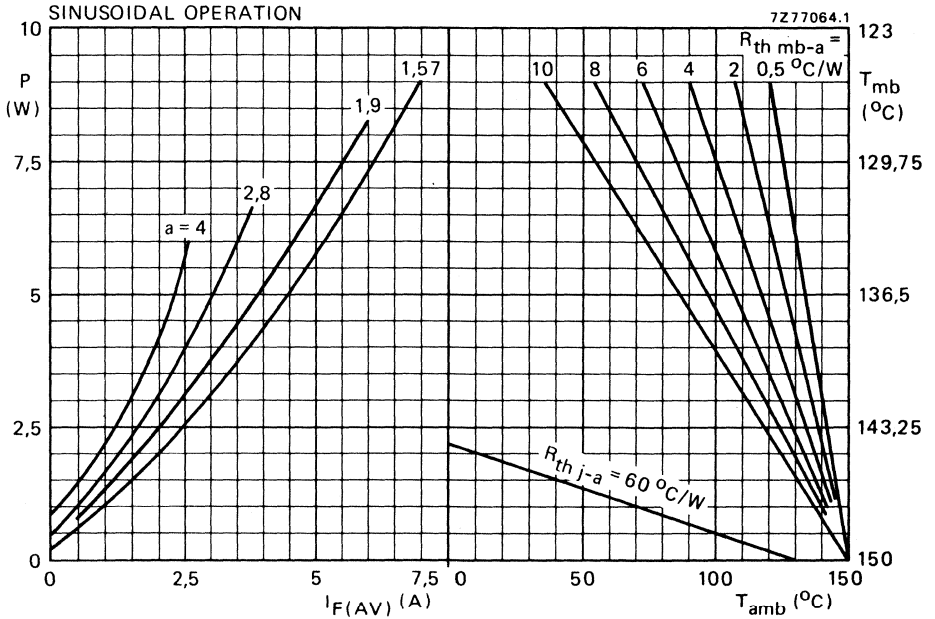

Fig. 5 The right-hand part shows the interrelationship between the power (derived from the left-hand part) and the maximum permissible temperatures.
- b. The method of using Figs 5 and 6 is as follows: